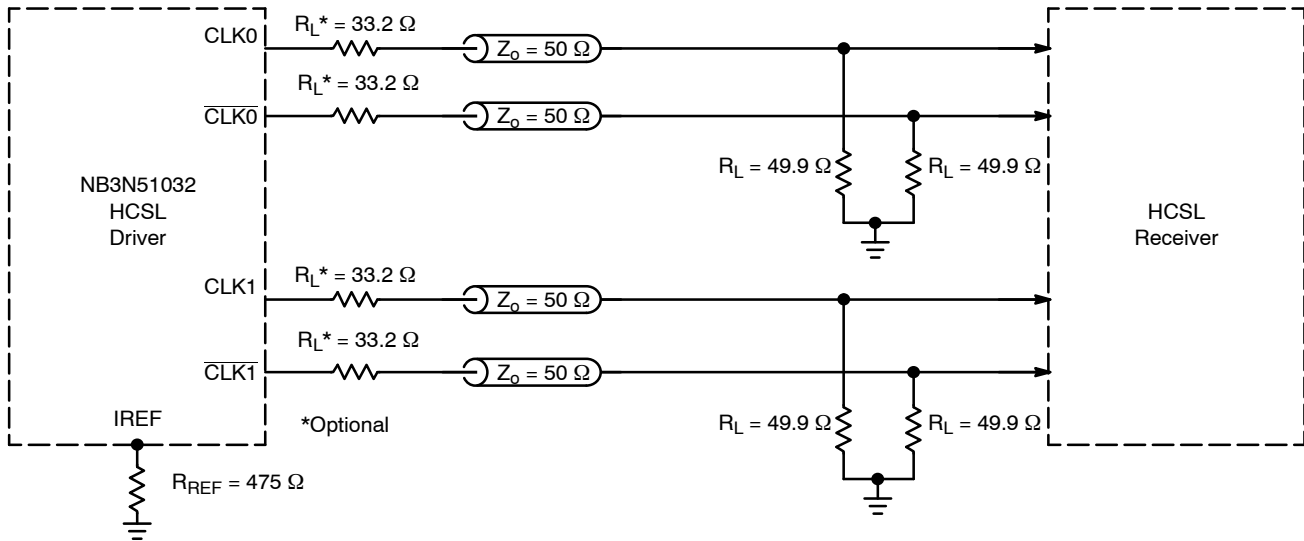
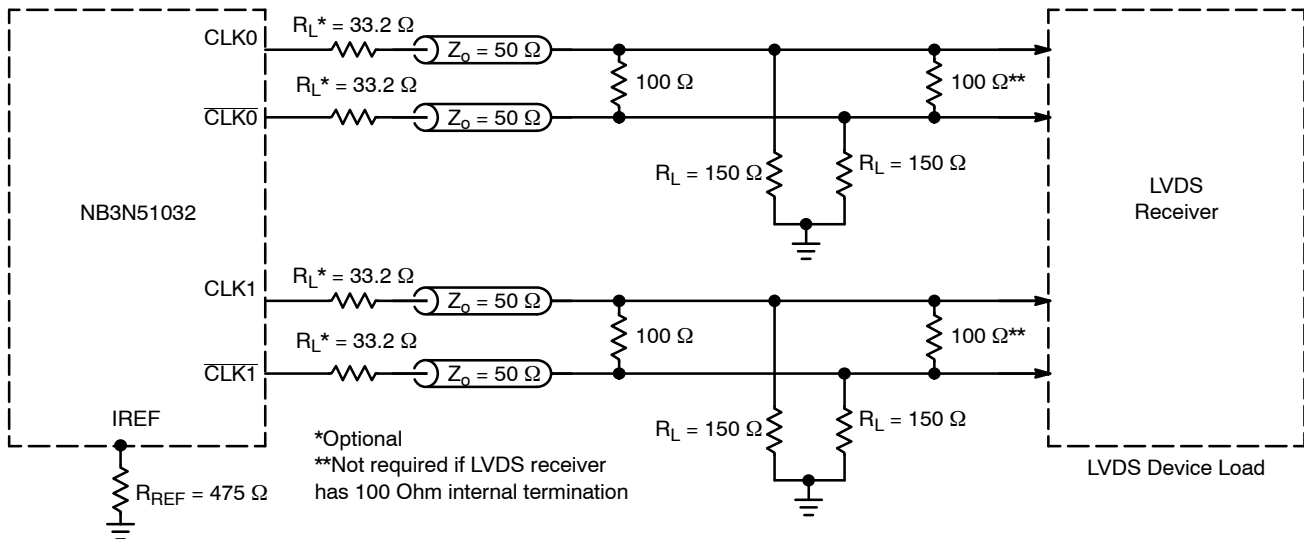

Figure 9. Typical Termination for Output Driver and Device Evaluation
Figure 10. Typical Termination for LVDS Device Load
4. VDDXD and VDDODA power pins must be shorted to power supply voltage V_{DD} and GNDXD and GNDODA ground pins must be shorted to power supply ground GND. Measurement taken with outputs terminated with R_S = 33.2 Ω, R_L = 49.9 Ω, with test load capacitance of 2 pF and current biasing resistor set at 475 Ω. See Figure 9. Guaranteed by characterization.
9. VDDXD and VDDODA power pins must be shorted to power supply voltage V_{DD} and GNDXD and GNDODA ground pins must be shorted to power supply ground GND. Measurement taken from differential output on single-ended channel terminated with $R_S = 33.2\ \Omega$, $R_L = 49.9\ \Omega$, with test load capacitance of 2 pF and current biasing resistor set at 475 Ω . See Figure 9. Guaranteed by characterization.
The outputs can be terminated to drive HCSL receiver (see Figure 9) or LVDS receiver (see Figure 10). HCSL output interface requires $49.9\ \Omega$ termination resistors to GND for generating the output levels. LVDS output